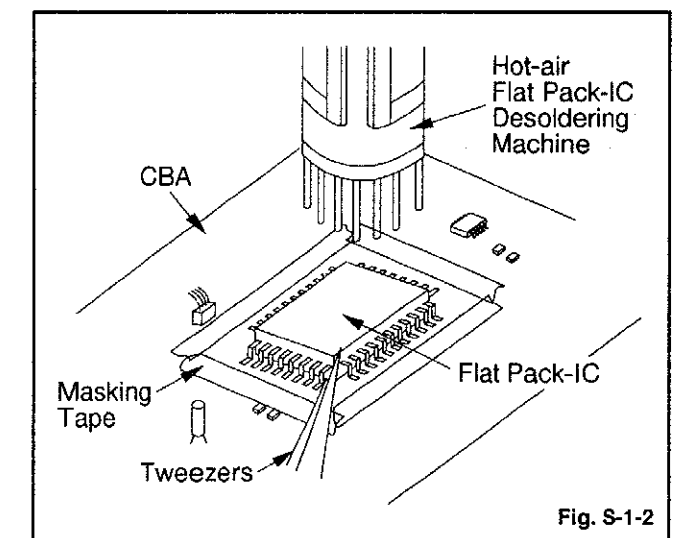

Fig. S-1-2
- Do not supply hot air to the chip parts around the flat pack-IC for over 6 seconds because damage to the chip parts may occur. Put masking tape around the flat pack-IC to protect other parts from damage. (Fig. S-1-2)